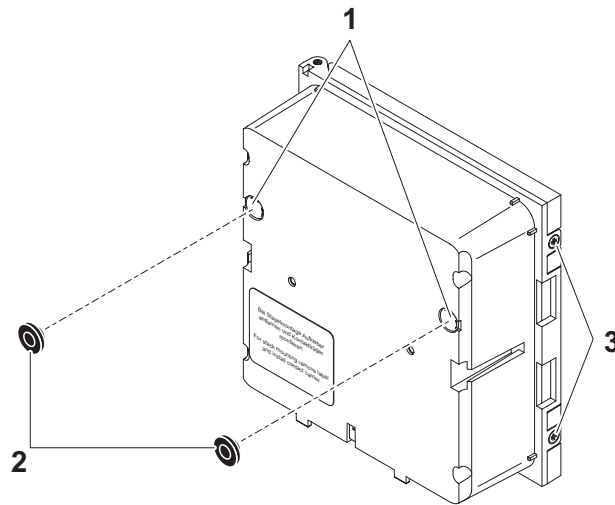

Fig. 3-12 Preparing the module for wall mounting
1	Remove the covers from the drilled mounting holes (pos. 1 in Fig. 3-12).
5	Close the module lid and fix it in place with the two countersunk screws (pos. 2 in Fig. 3-12).